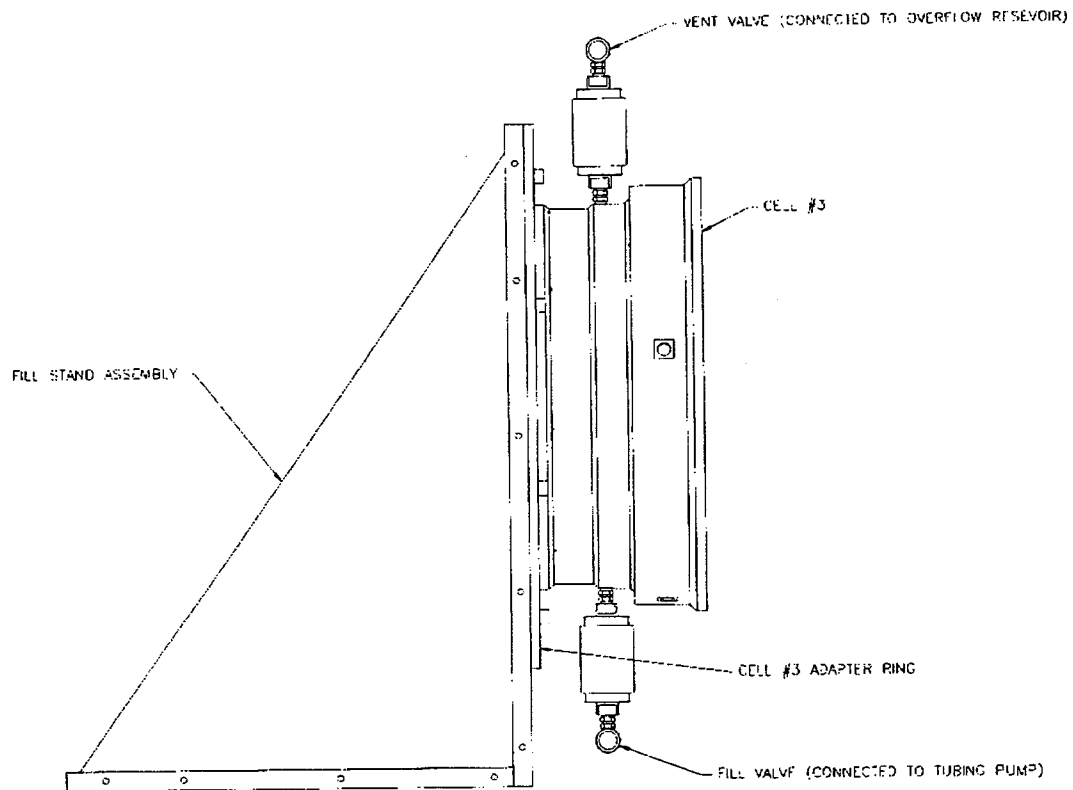

FIGURE 9: CELL #3 FILL STAND ASSEMBLY (WITH A GUSSET REMOVED FOR CLARITY)
14. Bolt the sealed cell to the filling stand with the valves lined up vertically, as shown in Figures 9 and 10.